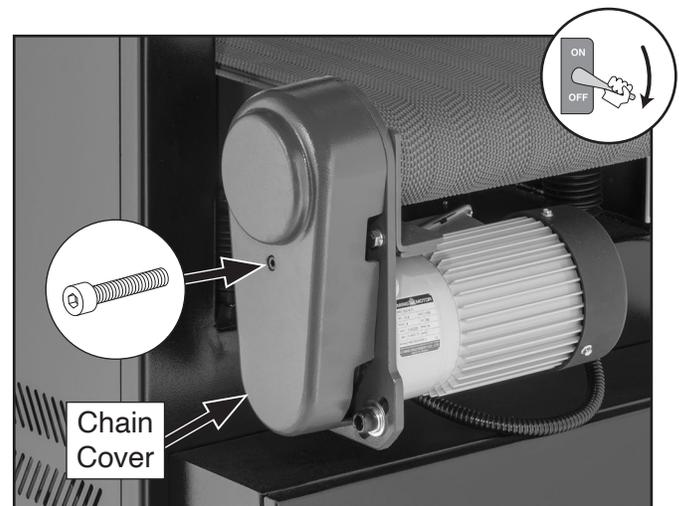

Figure 105. Location of chain cover and screw.
2. Remove cap screw shown in **Figure 105** to remove chain cover.